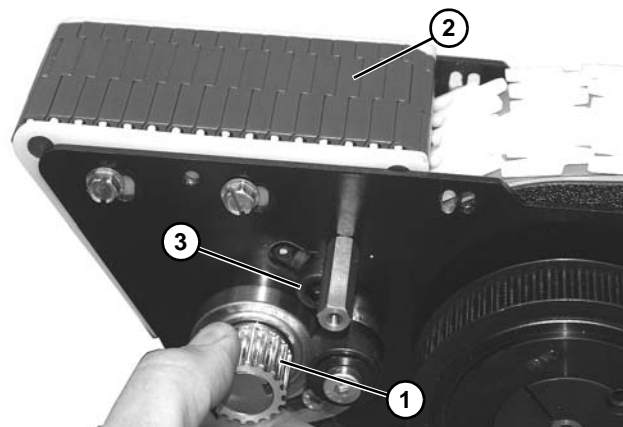

Figure 165
10. Rotate drive shaft (Figure 165, item 1) to verify tightness of belt (Figure 165, item 2). Belt should turn freely. Loosen idler socket head screw (Figure 165, item 3) and adjust, if necessary.